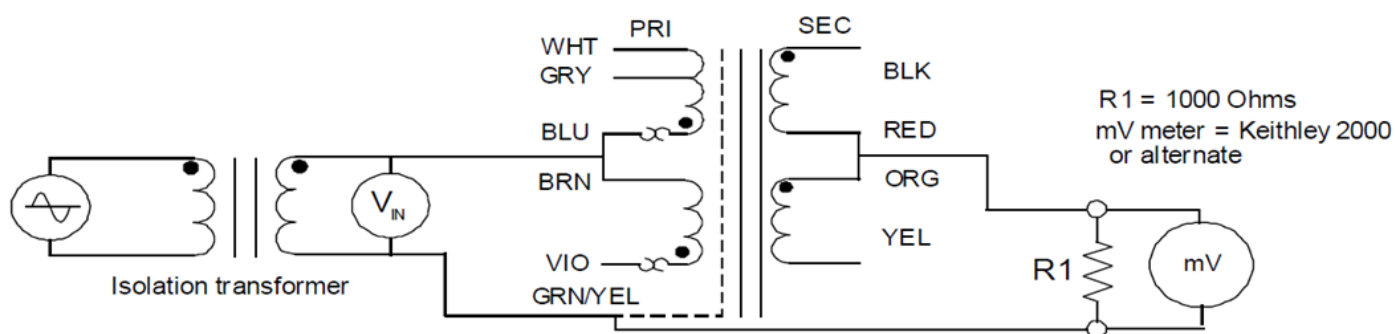
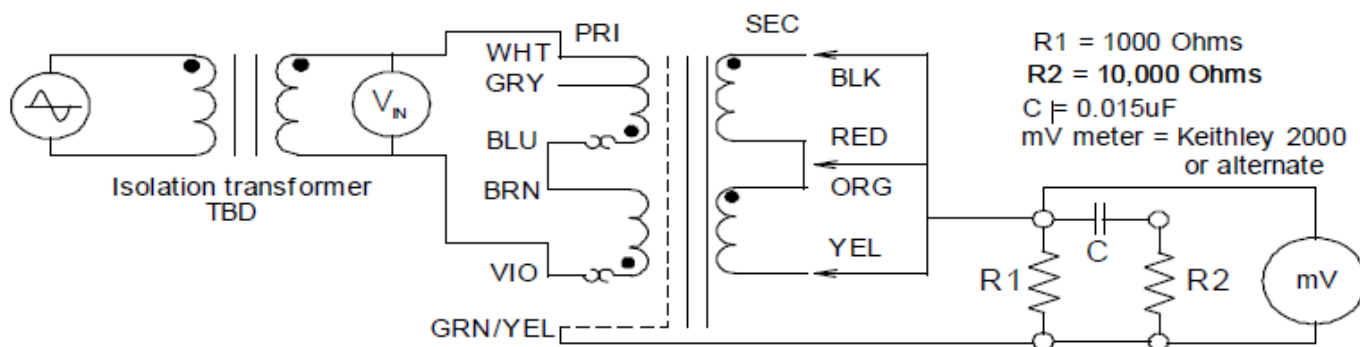

Figure 1
Figure 2
8. Earth Leakage: $\leq 10\mu A$ (See Fig. 1), Patient Leakage: $\leq 100\mu A$ (see Fig. 2)